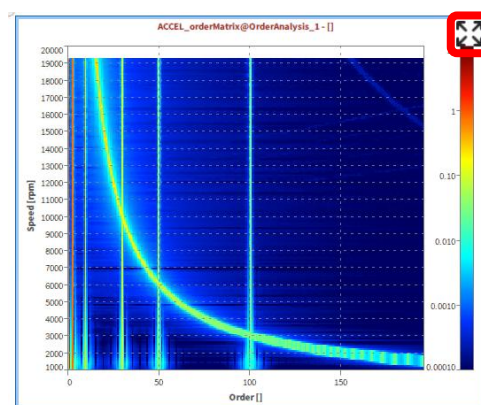

Figure 3-2: Enlarge instruments to the full screen
- Zoom of the instruments (see arrow button marked red in Figure 3-2:)